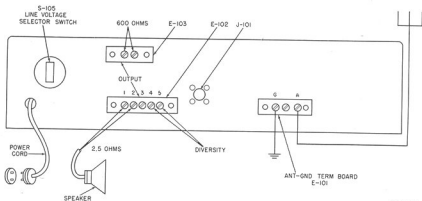

Figure 9. Cording and connections, rear of chassis.
a. A-C POWER OPERATION. Determine the frequency and line voltage of the available power source and check these against the list in paragraph 4. If the power supply is the same as any of the ratings listed there, it may be used. The primary winding of the power supply is tapped to allow for the use of a number of different line voltages. These taps are brought out to a line voltage selector switch (S-105) at the left rear of the chassis (fig. 9). The particular voltage for which the switch is set can be read directly
b. ANTENNA CONNECTIONS. Antenna terminal board E-101 is at the right rear of the chassis (fig. 9). This terminal board has a G terminal for a ground connection, a center terminal (unmarked) for use when operating the receiver from a balanced 200-ohm transmission line, and an A terminal for use with a straight-wire antenna. For general use, a straight-wire antenna 25 to 50 feet long is used, and a shorting link is connected between the G and center terminals. On frequency bands other than band 1, a balanced 200-ohm transmission line may be connected to the center and A terminals.
- (1) *Straight-wire antenna connection.* To operate the receiver on a straight-wire antenna, do not disturb the shorting link between the center and G terminals. Connect the antenna to the A terminal, and connect a good ground to the G terminal.
- (2) *Balanced transmission line input.* When operating the receiver on a balanced 200-ohm transmission line, open the link between the center and G terminals. Connect the transmission line to the center and A terminals.
c. SPEAKER CONNECTIONS. There are two output terminal strips at the left rear of the chassis; E-103 with two terminals on the top strip and E-102 with five terminals on the bottom strip (fig. 9). The upper strip (E-103) has two ungrounded terminals for use in feeding a balanced 600-ohm line. The terminals marked 1 and 2 on the lower strip (E-102) are to be used for connecting a 2.5- to 3.2-ohm speaker. Make the connections as required.
d. DIVERSITY RECEPTION. See TM 11-889A for detailed instructions on operating the receiver in a diversity combination. When the receiver is not used in diversity, terminals 3, 4, and 5 on E-102 are not to be connected to any external equipments, and a jumper link must be installed across terminals 4 and 5 to complete the diode circuit for individual receiver operation (fig. 9).
- (1) Check the line voltage selector switch (S-105) (fig. 9) to see that it is set at the proper voltage rating for the available power supply.
- (2) Connect the power cord to the source of power.
- (3) Set the controls listed below as indicated: